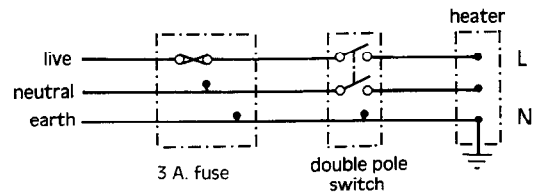

Fig. 3
3. An un-switched socket outlet complying with BS 1363. The method of connecting the plug brown wire to live (L) blue wire to neutral (N) and green/yellow to earth (\perp), see fig. 3.